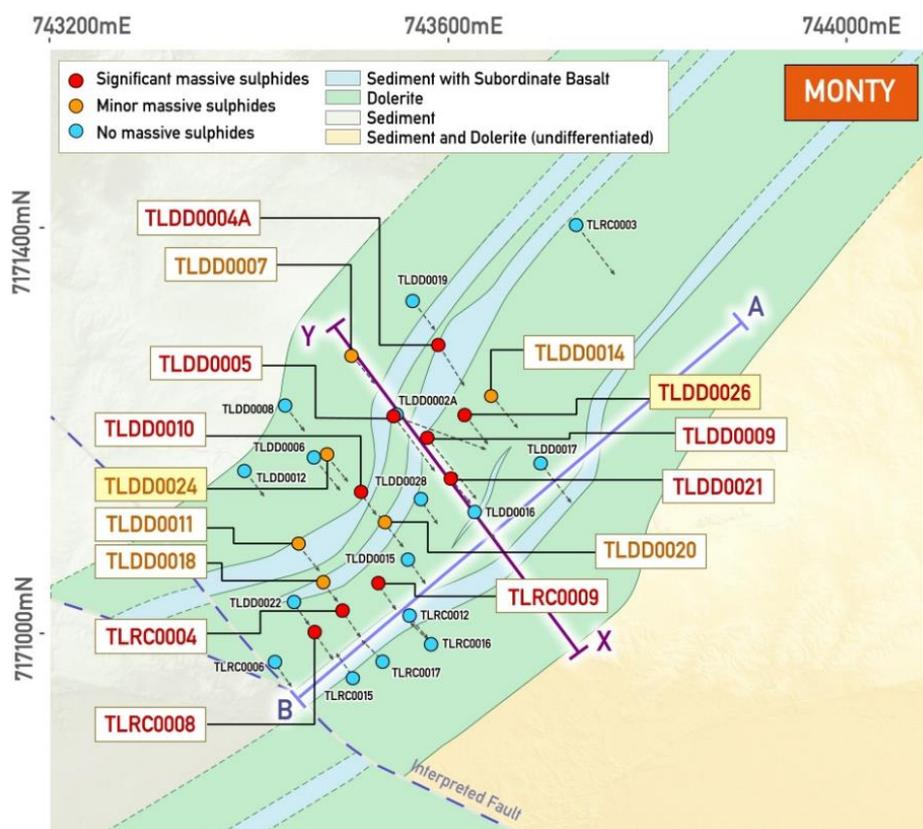

Figure 1: Plan view of Monty showing drill-hole collar locations and simplified interpreted geology.
The collar locations of advised holes drilled to date by Sandfire are shown in the plan view diagram below (see Figure 1) and Table 1.
Diamond drill hole **TLDD0026** was drilled approximately 45 metres along strike from recently reported hole TLDD0021 (**7.3 metres of massive sulphides** from 286.2m down hole) (see TLM ASX announcement - 2 October 2015) and approximately 46 metres up-dip of the halo mineralisation intersected in TLDD0014 (see Figures 1 and 2).
**TLDD0024** was drilled approximately 66 metres down-dip of previously reported hole TLDD0010 (intercepts including **10.5m grading 18.9%Cu and 3.1 g/t Au** from 359.7m down hole and **4.7m grading 12.8%Cu and 2.5 g/t Au** from 373.6m down hole ) (see TLM ASX announcement - 8 September 2015) (see Figures 1 and 2).
**TLDD0028** was drilled approximately 37 metres along strike to the south-west from previously reported hole TLDD0021 (**7.3 metres of massive sulphides** from 363.1m down-hole) (see TLM ASX announcement – 2 October 2015) and 46 metres from the mineralisation intersected in TLDD0020 (**1.2 metres of massive sulphides** from 272.6m down-hole), (see Figures 1 and 2).
Sandfire have also advised that it has received assay results from the previously reported Diamond drill holes **TLDD0014** and **TLDD0011** (see *Figure 1, Figure 2 and Table 1*)
**TLDD0014** was located 45 metres along strike of TLDD0026 (see *Figures 1 and 2*) and intersected:
**TLDD0011** was drilled along strike of TLDD0010 (see *Figures 1 and 2*) and returned an intersection of:
Sandfire have advised that reverse circulation drill holes TLRC0015, TLRC0016 and TLRC0017 were drilled up-dip of, and at the opposite orientation to, previously reported holes TLRC0004, TLRC0008 and TLRC0009 to test for potential mineralisation (see *Figures 1 and 2*).
Sandfire have also advised that it has received assay results from the previously reported reverse circulation drill hole **TLRC0009** (see *Figures 1 and 2 and Tables 1 and 2*).
**TLRC0009** intersected mineralisation approximately 40 metres along strike to the north-east of TLRC004 (see *Figures 1 and 2*) and returned an intersection of: